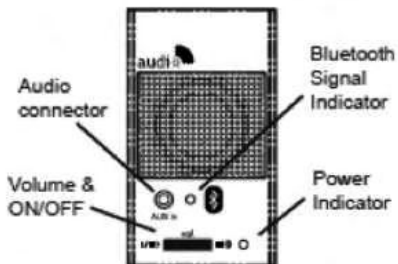

Fig. 5
- When the fitting is switched on, the Bluetooth signal indicator will start flashing - at this point the fitting is discoverable (see Fig. 5)